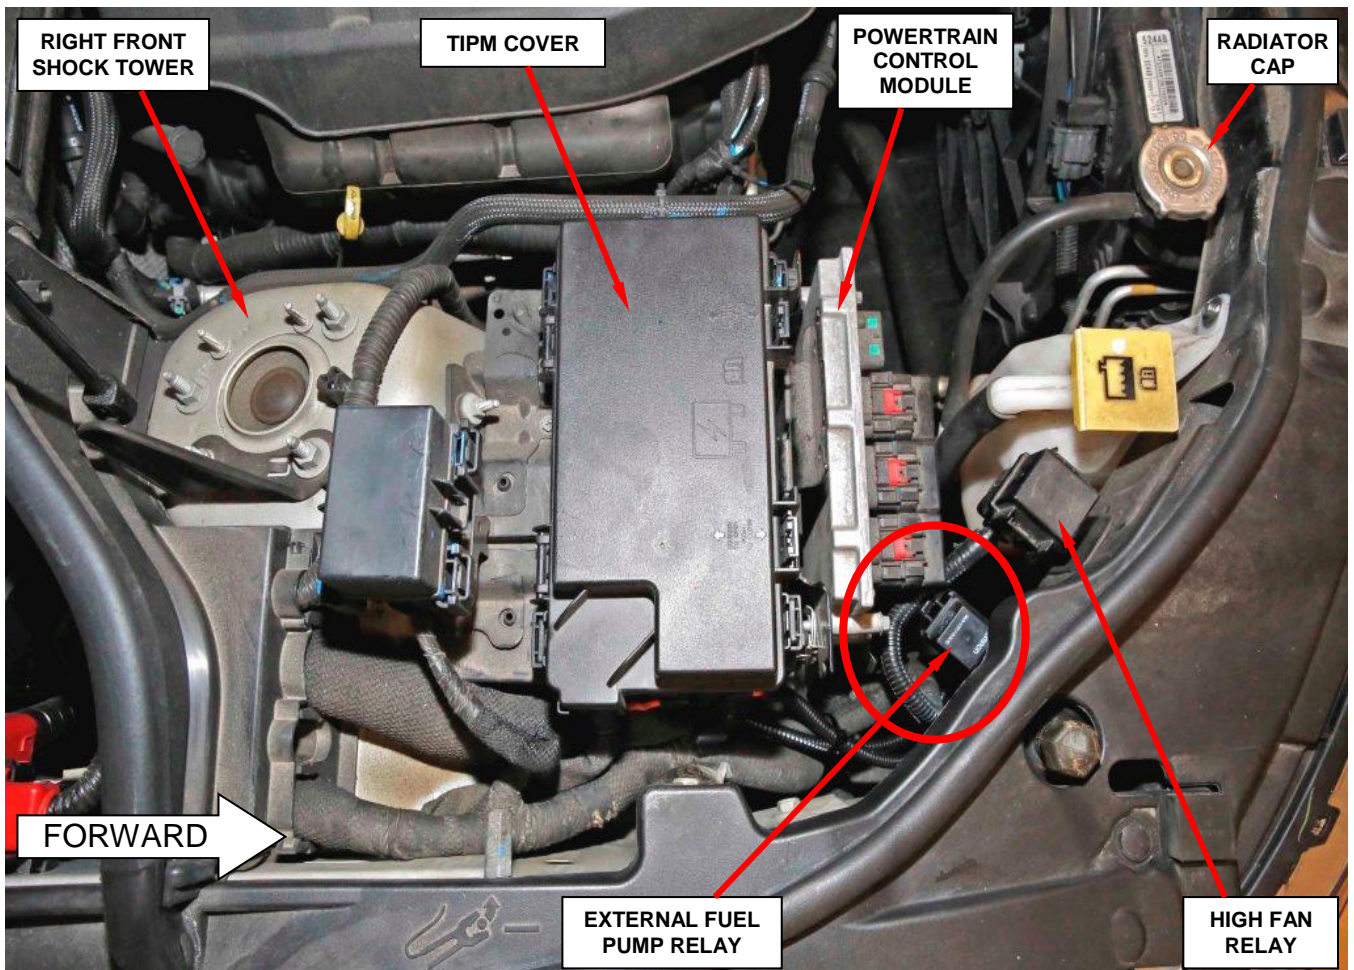

Figure 1 – Inspect for External Fuel Pump Relay
2. Inspect for an external fuel pump relay (Figure 1):
5. Remove the fuel pump relay from the core support (Figure 1).